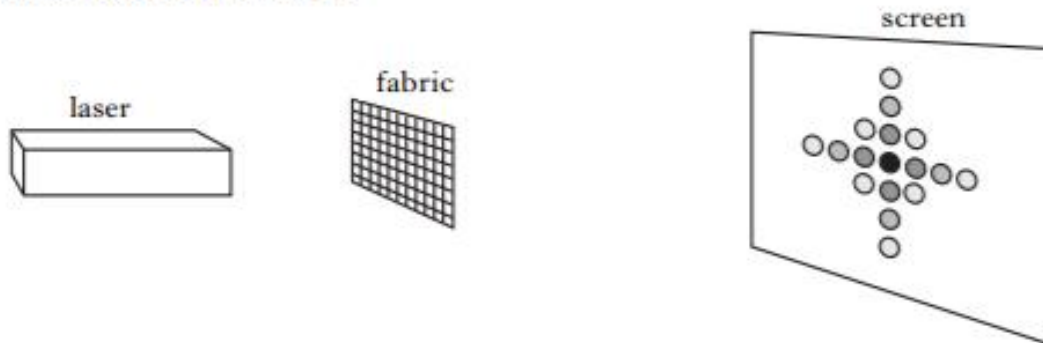

Figure 9A
9. A laser-based quality control system to measure thread spacing in fabric samples is being evaluated. The 2-dimensional interference pattern is displayed on a screen shown in Figure 9A.